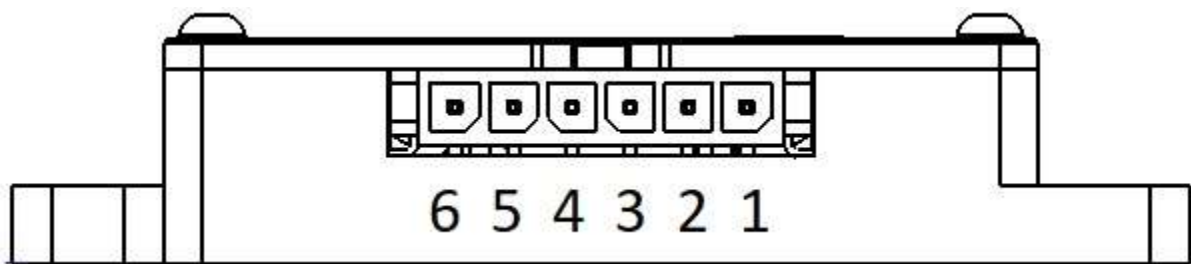

Figure 7-1 In-Cab Controller Pin Out Diagram
1. Connect the PC's RS-232 port (commonly supplied by a USB to RS-232 Adapter) to the ICC unit. Refer to Figure 7-1 or use optional configuration harness UAV-1002582-001.
enabled. Refer to Figure 7-1 or use optional configuration harness UAV-1002582-001.